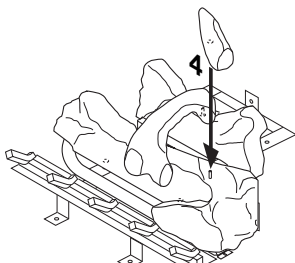

Figure 47 - Installing Log No. 4
4. Place log #4 (right log) onto pin on right side of front log as shown in Figure 47, page 26.